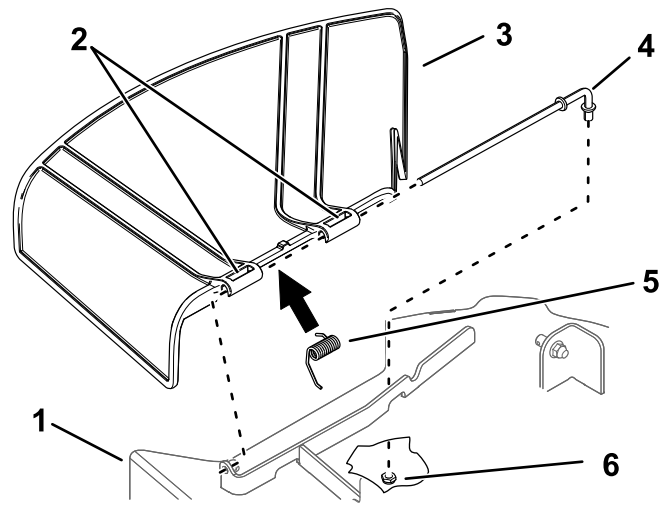

Figure 65
1. Remove the nut (3/8 inch) from the rod under the mower (Figure 65).
2. Slide the rod out of the deck bracket, spring, and grass deflector (Figure 65).
4. Install the new grass deflector (Figure 65).
7. Slide the rod through the second grass-deflector pivot (Figure 65).
9. Secure the rear end of the rod into the mower with a nut (3/8 inch) as shown in Figure 65.